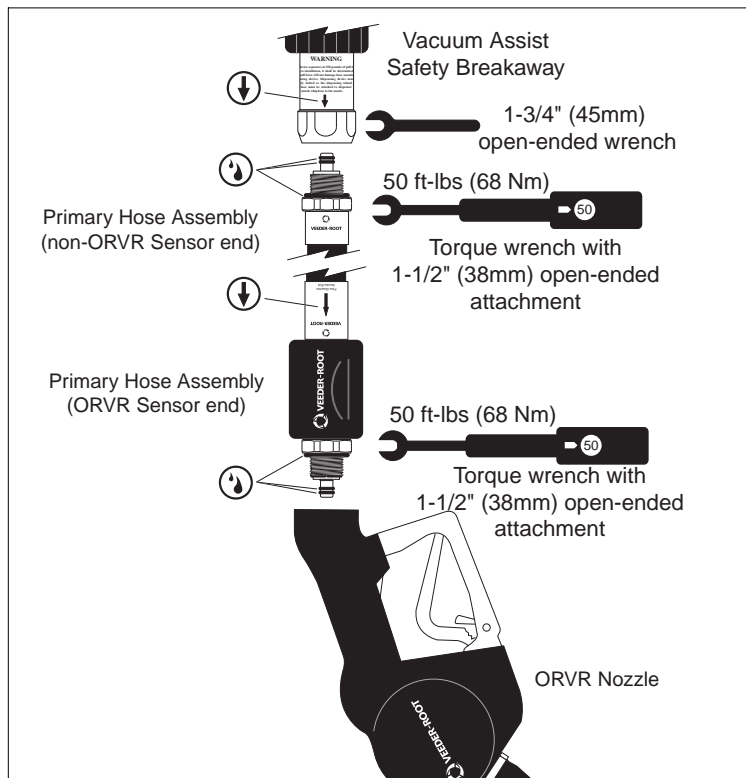

Figure 4. Connecting Primary Hose Assembly with ORVR Sensor
3. Inspect and lubricate the three o-rings (see Figure 4) on each fitting of the hose using mineral oil or other suitable lubricant.
4. Notice the ORVR sensor end of the Primary Hose assembly (see Figure 4). This end of the hose will attach to the nozzle.
5. Screw the non-ORVR sensor end of the Primary Hose assembly into the bottom of the Vacuum Assist Safety Breakaway and tighten it by hand (see Figure 4).
7. Attach the ORVR nozzle to the downstream end (ORVR sensor end) of the Primary Hose Assembly and tighten it by hand (see Figure 4). Torque the fitting on the Primary Hose Assembly at the nozzle end to 50 foot-pounds. Do not use channel-lock or "water-pump" pliers.